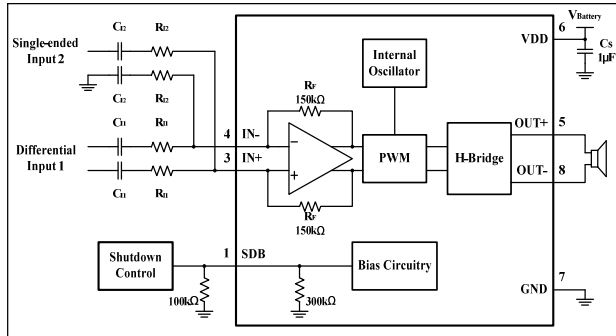

Figure 15 Application Schematic with IS31AP2005 Summing Differential Input and Single-Ended Input Signals
Figure 15 shows how to sum a differential input signal and a single-ended input signal. Ground noise may couple in through IN- with this method. It is better to use differential inputs. The corner frequency of the single-ended input is set by C_{I2} , shown in equation (8). To assure that each input is balanced, the single-ended input must be driven by a low-impedance source even if the input is not in use.